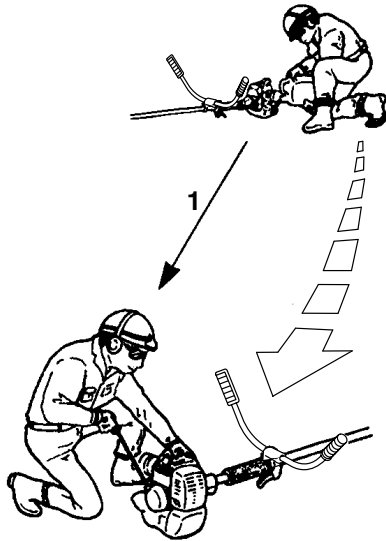

Figure 2
6. Move the Brushcutter at least 10 feet (3 m) away from the fueling location before starting the engine (Fig. 2).